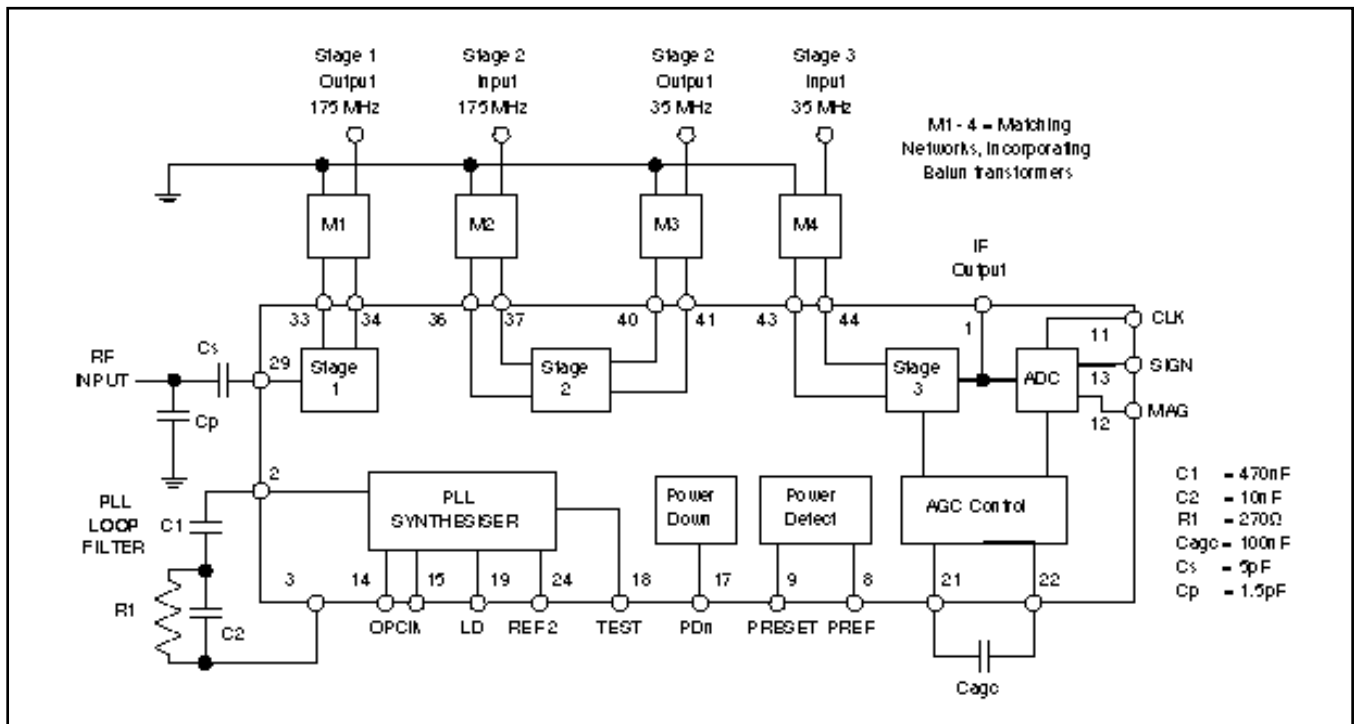

Fig. 3 GP2010 test circuit
**Notes On Electrical Characteristics:-** All RF measurements are made with appropriate matching to the input or output impedances, such as balun transformers, and levels refer to matched 50ohm ports (see figure 3 for test circuit)